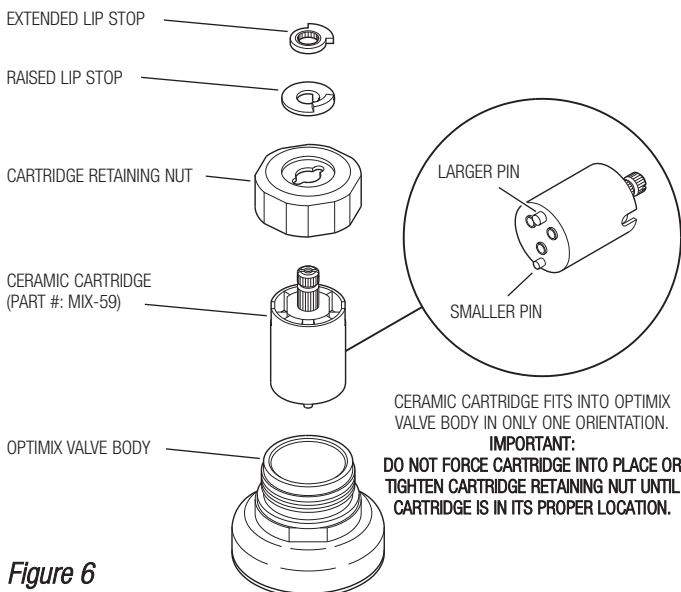

Figure 6
CERAMIC CARTRIDGE REPLACEMENT (SEE FIGURE 6)
CERAMIC CARTRIDGE REPLACEMENT (SEE FIGURE 6) - CONTINUED
- C Replace Ceramic Cartridge** — Remove Cartridge Retaining Nut from Optimix Valve Assembly. Pull the Ceramic Cartridge out from the Valve Body and replace with a new MIX-59 Ceramic Cartridge. Rotate the Cartridge until the Cartridge Pins set into the corresponding holes of the Valve Body. The Cartridge is designed to fit into the Valve Body in only one orientation. **Be certain that the larger Pin sets into the corresponding larger hole and the smaller Pin into the corresponding smaller hole of the Valve Body; refer to Figure 6. DO NOT force Cartridge into place or tighten Cartridge Retaining Nut until Cartridge is in its proper location.** Reinstall the Cartridge Retaining Nut and tighten hand-tight.